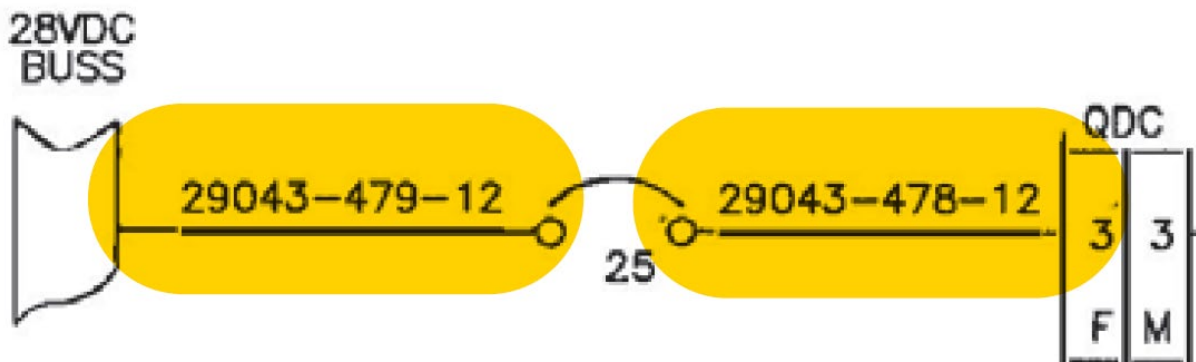

Figure 15: Taxi Light Right Hand Panel and 25 Amp Circuit Breaker Wires
- Connect 29043-478-12 and 29043-479-12 wires to the Taxi Light Right Hand Panel and 25 Amp circuit breaker (7271-8-25). Refer to Figure 15.